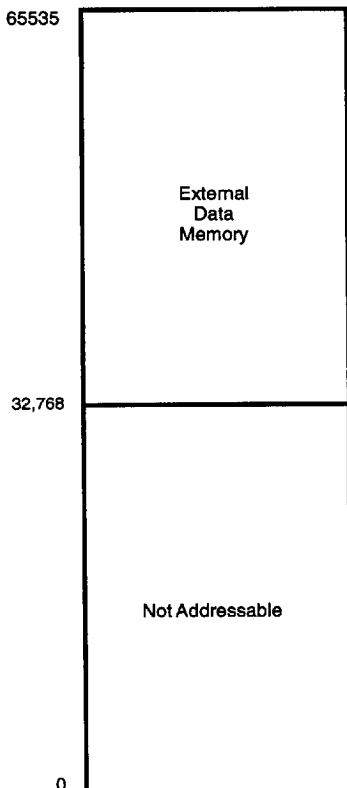

Figure 16. Data Memory Map
**External Data Memory (/DM).** The Z86L73/74/77 addresses up to 32/56 Kbytes of external data memory beginning at location 000CH (Figure 16). External data memory is included with, or separated from, the external program memory space. /DM, an optional I/O function that is programmed to appear on P34, is used to distinguish between data and program memory space. The state of the /DM signal is controlled by the type of instruction being executed. An LDC opcode references PROGRAM (/DM inactive) memory, and an LDE instruction references data (/DM active Low) memory.